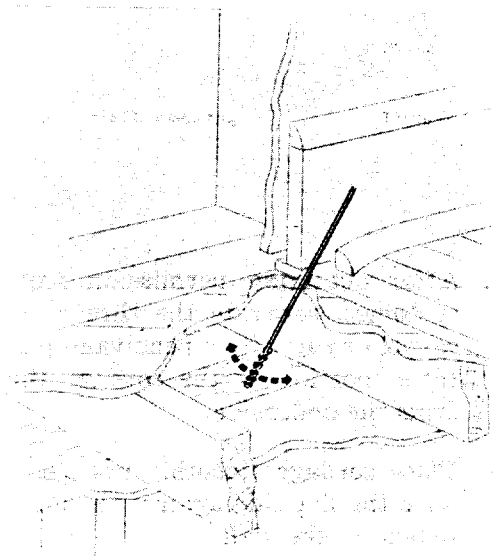

Fig. 4 – Locating Plates
- When drilling plates, locate them by feeling with the bit to determine proper position for drilling as shown in Fig. 4.